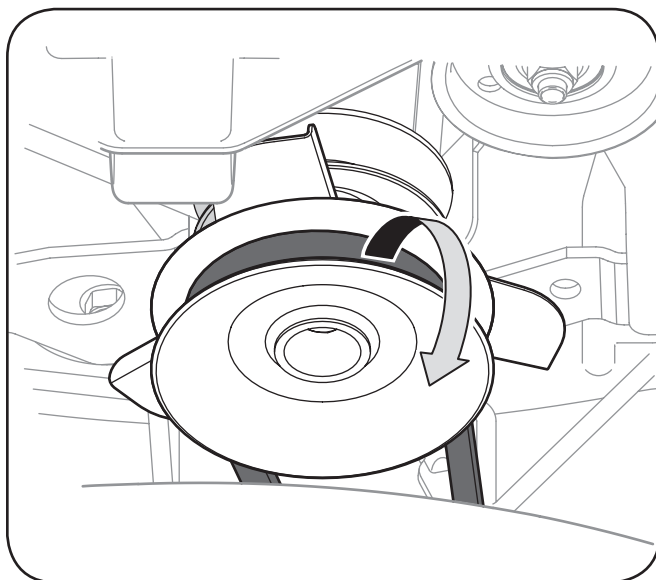

Figure 7-2
4. Remove the belt from around the tractor's PTO pulley. See Figure 7-2.
3. Remove the deck belt from around the unit's PTO drive pulley as shown in Figure 7-2. Simply roll one side of the belt off of the pulley and then work it off the pulley by continuing around the pulley until the belt is off of the pulley.
8. Feed the deck belt through the belt keeper rod and work it around and onto the PTO drive pulley as shown in Figure 7-2.